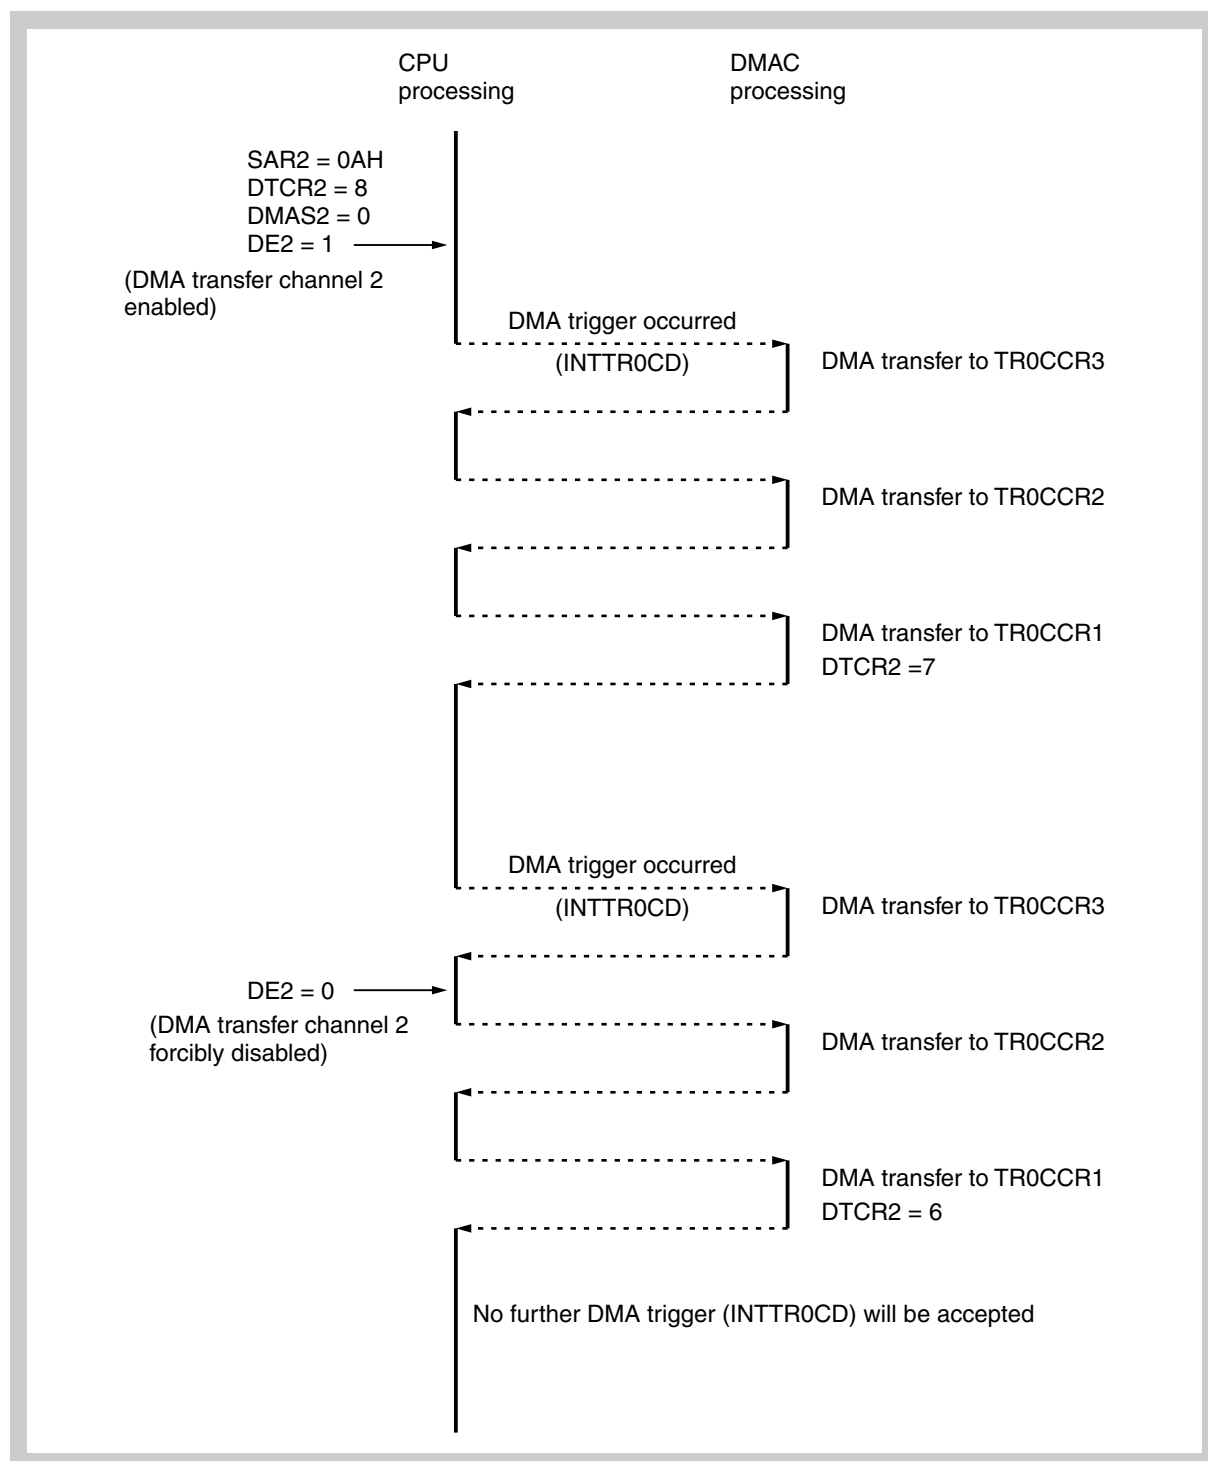

Figure 6-13 CPU and DMA controller processing of DMA transfer termination (example)
A once started DMA transfer can be forcibly terminated when the corresponding DEn bit in the DMAMC register is cleared (0). However, if the DEn bit is cleared while DMA transferring, an once started data transfer is stopped first after it has been finished (refer to *Figure 6-13*).